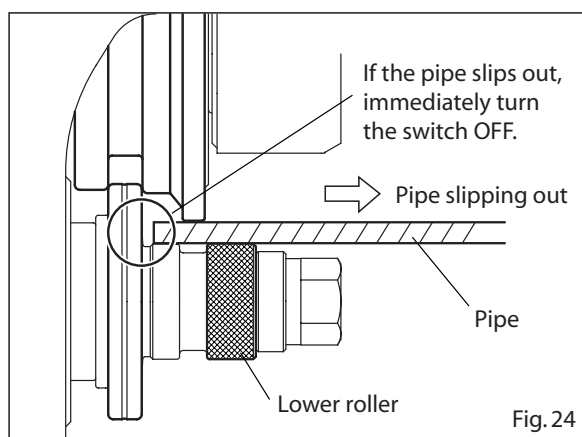

Fig. 24
- Should the pipe slip off the lower roller, turn the threading machine OFF immediately to stop it rotating. If the pipe slips out while still rotating, the pipe will become detached from the lower roller and could fall out, which is very dangerous. (Fig. 24)